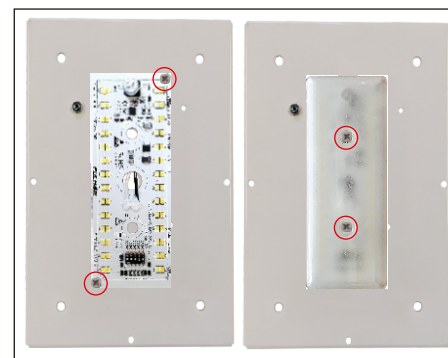

Figure 4
4. Secure the LED Engine to the luminaire mounting plate using the provided 6-20 x3/8" Self Drilling Screws (B). See Figure 4.